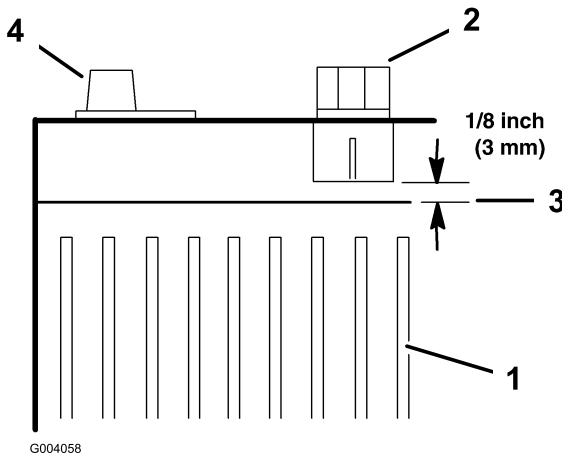

Figure 36
7. Add just enough distilled water to bring the electrolyte level to 1/8 inch (3 mm) below the bottom of each fill well (Figure 36).